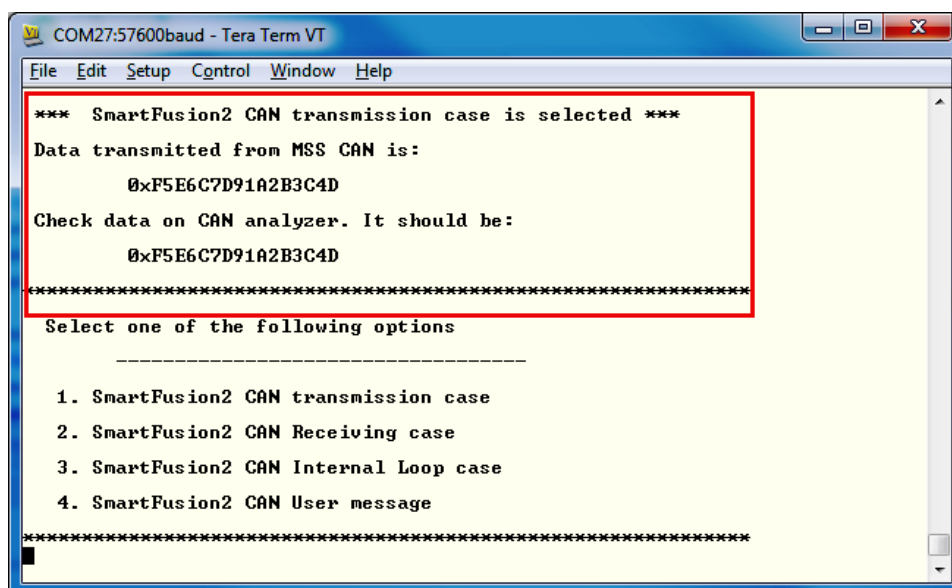

Figure 31 • SmartFusion2 CAN Transmission Case Option
- Enter 1. The message is sent to the CAN bus and the same message is reflected in the HyperTerminal as shown in Figure 31.